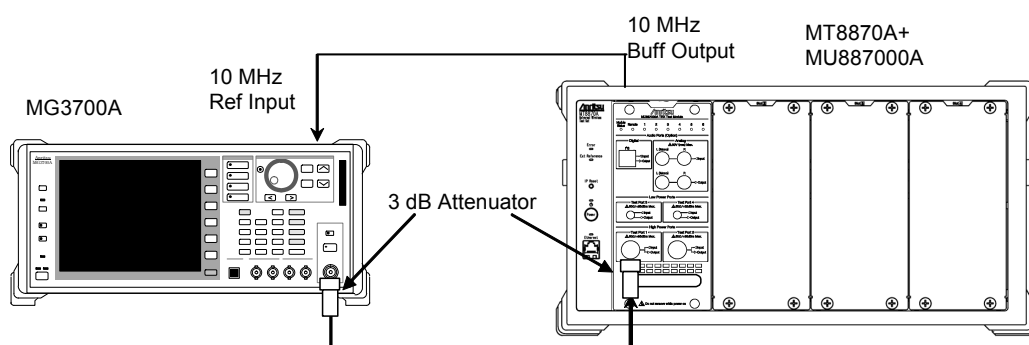

Figure 6.4.3-1 In-Band Emissions Measurement Setup
1. Setup the instruments as shown in Figure 6.4.3-1.